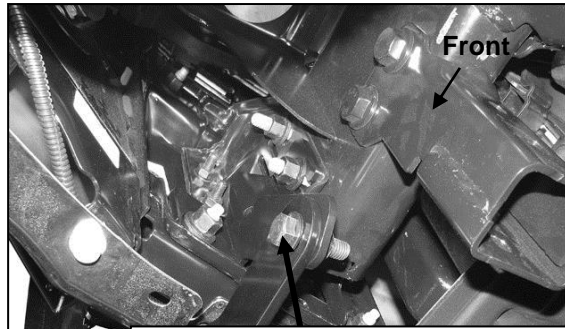

Fig 9
6. Line up the holes and attach the Grille Guard to the Lower Mounting Brackets using the included (2) 12mm x 40mm Hex Bolts, (4) 12mm Flat Washers, (2) 12mm Lock Washers and (2) 12mm Hex Nuts, **(Figure 9)**. Snug but do not tighten at this time.